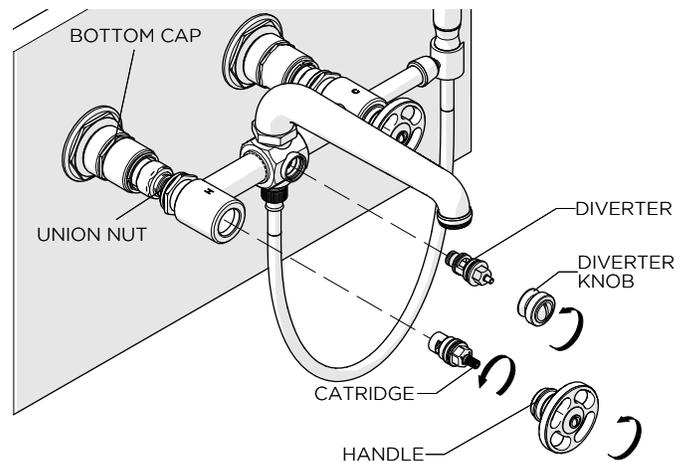

Figure 5
- See Figure 5. for Steps 14-16.